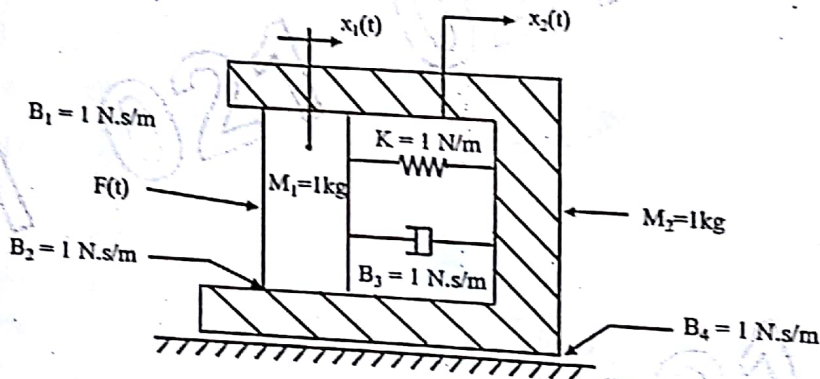

Fig 1 (b)
- b) Find T.F,  $G(s) = \frac{x_2(s)}{F(s)}$  for mechanical system shown in fig 1 (b) 8